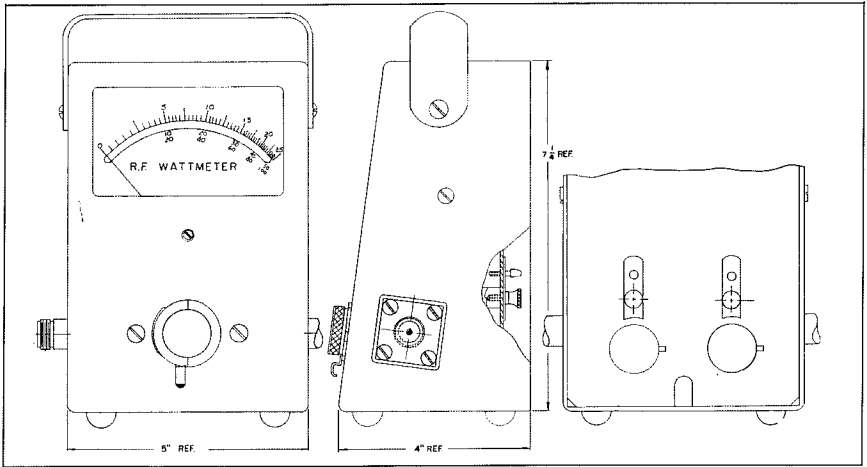

Figure 1. Wattmeter Overall Dimensions
**3.1 DIRECT INSTALLATION.** Connection may be made directly to the quick-match RF connectors mounted on the internal line section. Make connections with any suitable coaxial cable of 50-ohm impedance. Connect the power source to one side of the wattmeter and connect the load to the opposite side. Power source and load can be connected interchangeably, since the direction of the plug-in detector element selects whether forward or reflected power will be sensed by the meter. Refer to figure 1 for dimensions of the wattmeter unit. Use only 50-ohm impedance cables for making connections to the wattmeter unit. Impedance mis-match can introduce inaccuracies in the power reading. Calculations of inaccuracies resulting from impedance mis-match are discussed in paragraph 5.1 on page 12.